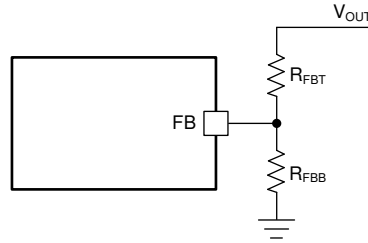

**図 8-1. SW Node and Inductor Current Waveforms in Continuous Conduction Mode (CCM)**
The following operation description of the LV3842 will refer to the セクション 8.2 and to the waveforms in 図 8-1. LV3842 is a step-down synchronous buck regulator with integrated high-side (HS) and low-side (LS) switches (synchronous rectifier). The LV3842 supplies a regulated output voltage by turning on the HS and LS NMOS switches with controlled duty cycle. During high-side switch ON time, the SW pin voltage swings up to approximately  $V_{IN}$ , and the inductor current  $i_L$  increases with linear slope  $(V_{IN} - V_{OUT}) / L$ . When the HS switch is turned off by the control logic, the LS switch is turned on after an anti-shoot-through dead time. Inductor current discharges through the low-side switch with a slope of  $-V_{OUT} / L$ . The control parameter of a buck converter is defined as Duty Cycle  $D = t_{ON} / T_{SW}$ , where  $t_{ON}$  is the high-side switch ON time and  $T_{SW}$  is the switching period. The regulator control loop maintains a constant output voltage by adjusting the duty cycle  $D$ . In an idea Buck converter, where losses are ignored,  $D$  is proportional to the output voltage and inversely proportional to the input voltage:  $D = V_{OUT} / V_{IN}$ .